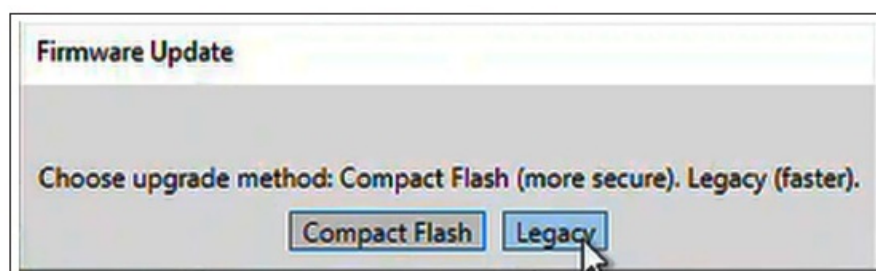

Figure 33. The Firmware Update dialog box.
- **STEP 15.** The Firmware Update dialog box will prompt for the selection of the update or downgrade method. Click on one of the options to proceed. See Figure 33.